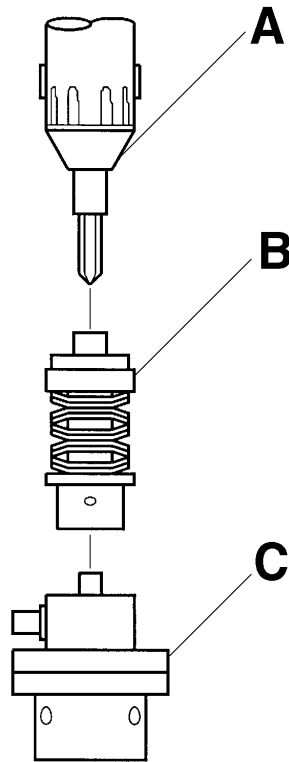

Figure 4-1: Power Tool Test Setup
6. Install the joint rate simulator onto the **VERSATEST** transducer, as shown in Figure 4-1. Secure the transducer set screw, if provided. Loosen the simulator load screw using the appropriate hex or box wrench.